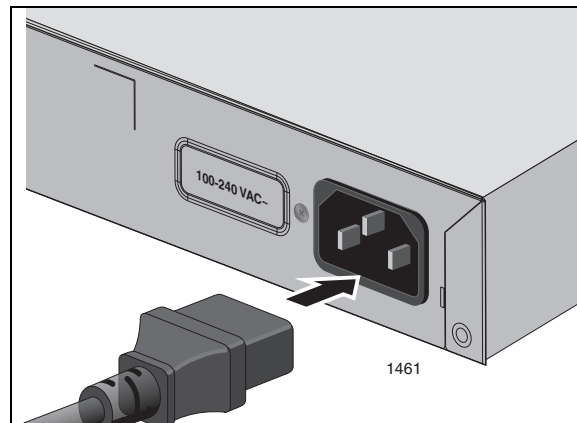

Figure 13. Connecting the AC Power Cord
1. Plug the power cord into the AC power connector on the back panel of the unit (see Figure 13).